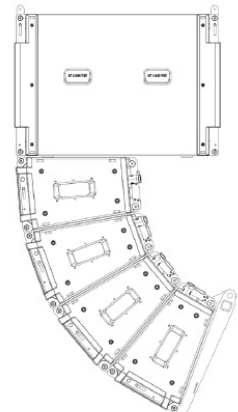

Fig. 10. SM10-SM20-SM20-SM20
- SM10, SM20, SM20, SM20 (see Figure 10)